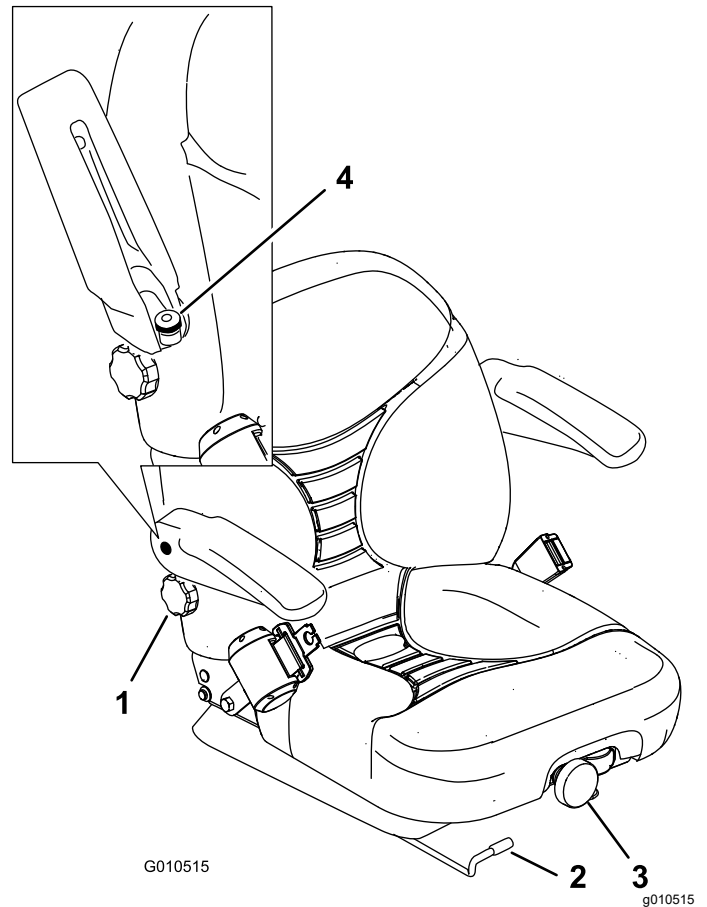

Figure 34
1. Move the lever sideways to unlock the seat (Figure 34).
To adjust it, turn the front knob in either direction to provide the best comfort (Figure 34).
To adjust it, turn the knob, under the right-side armrest, in either direction to provide the best comfort (Figure 34).
Raise the armrest and turn the knob in either direction to provide the best comfort (Figure 34).